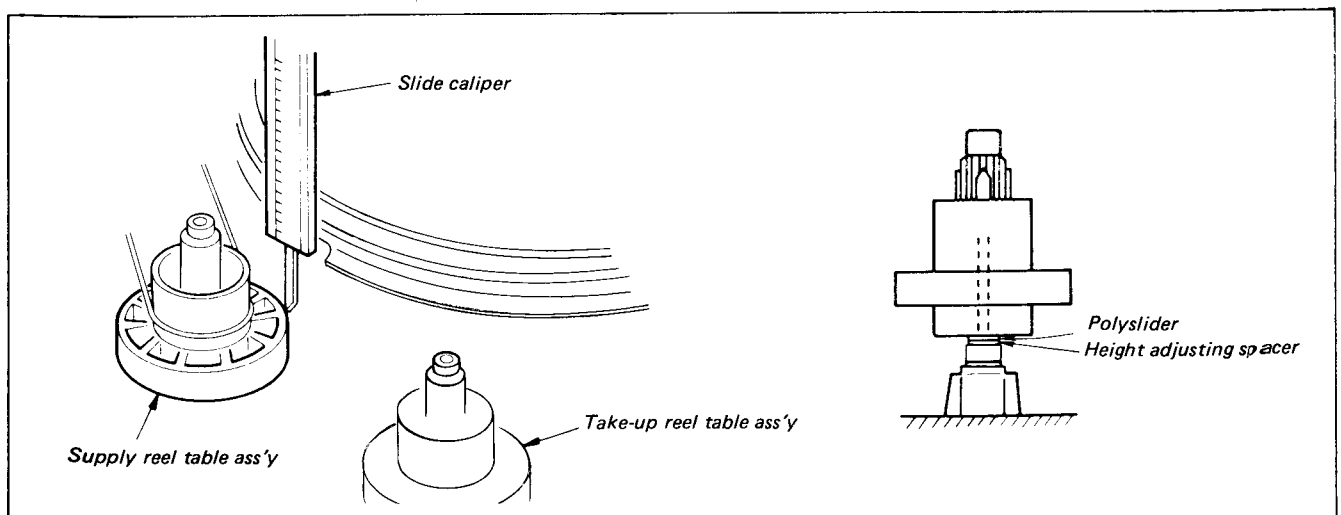

Fig. 3-9. Adjustment of Reel Table Height
- (2) Place a new reel table, measure its height, and adjust height by adding or removing the adjusting spacer so that a difference in the height of the old reel table and the new reel table is within 0.1 mm. (See Fig. 3-9)